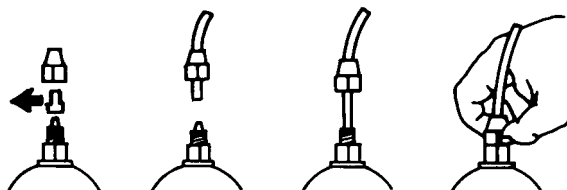

Fig. 7
- e.- Remove the protection caps from the two nipples, slide the hoses over the connectors, pushing them into the maximum, and then fix them with appropriate tube nuts. (Fig. 7).